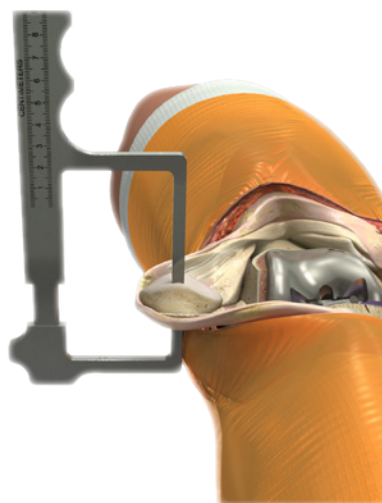

Figure 25
**Note:** The ANTHEM® resurfacing patella is 9mm thick for all sizes (Figure 25).